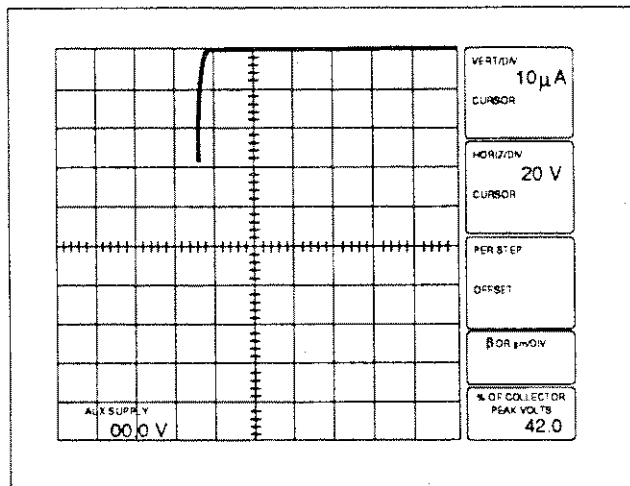

Figure 3-4. Display of signal diode reverse-bias characteristics.
16. Rotate the VARIABLE COLLECTOR SUPPLY control clockwise and adjust the trace intensity. Note the display of the reverse voltage characteristic of the diode (see Figure 3-4).